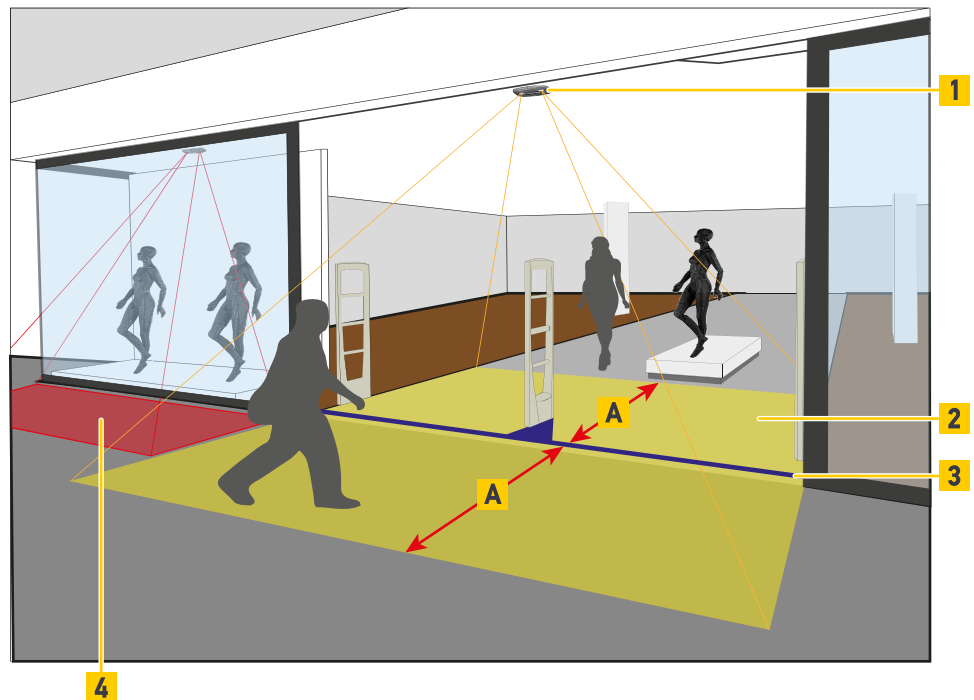

Fig. 44: Mounting position
- As much as possible, the monitored area (Fig. 44 /2) must be free of interfering objects.
- Place the device (Fig. 44 /1) above the end of the door swing area, because the counting lines must be set around that door swing area.
- Place the device at least 30 to 50 cm (11.8 to 19.7 in) away from a wall with sliding doors, because a minimum clearance of 30 to 50 cm (11.8 to 19.7 in) (Fig. 44 /A) must be observed between the counting lines (Fig. 44 /3) and the entrance for tracking people.
- For counting line applications there must not be any point of interest (Fig. 44 /4) in the counting area, i.e. no place where people are encouraged to linger (sales counter, coat stands, info stands, etc.), because tracking may be lost e.g. due to persons bending down or interacting with objects